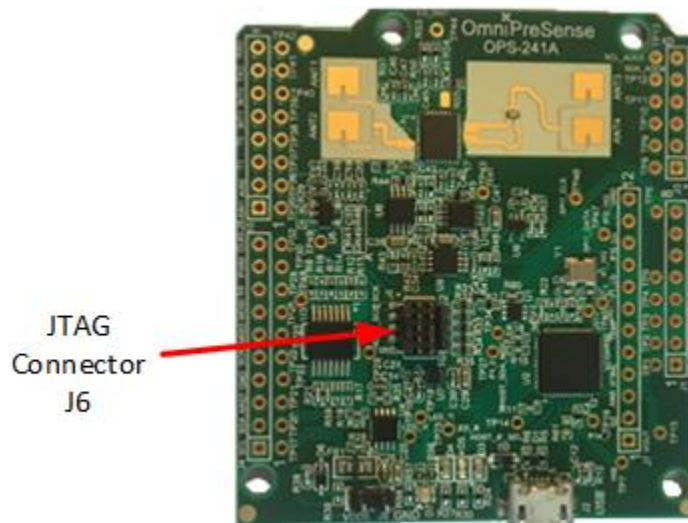

Figure 3. JTAG Connector J6
Step 2. Connect the JTAG programming tool connector to the JTAG connector on the OPS241 (J6) located in near the middle of the board (Figure 3). The connector is keyed, so it can only connect in one direction.